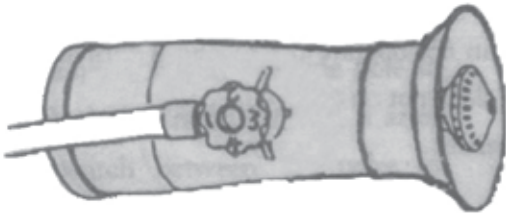

Fig 10
(1)Misting.Loosen the pressing lid,regulate the length of the nozzle opening to meet the different requirments of misting.Turn the regulating valve to change the amount of misting.See Fig.10.